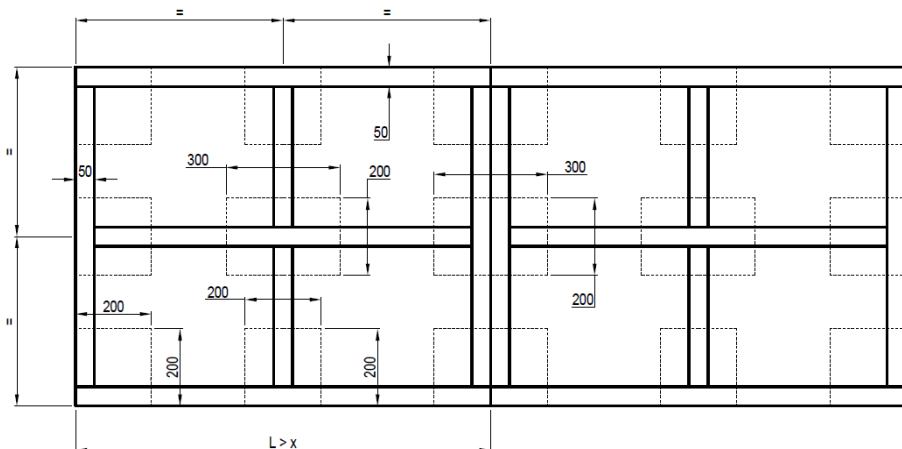

Fig. 28 Frame for AHU unit sizes 0230 to 0090
d) or air-handling units size from 0230 to 0090 large additional support 300x200 mm should be located at the ends of the blocks in the place of connecting external frame with the air-handling unit longitudinal element Fig. 28